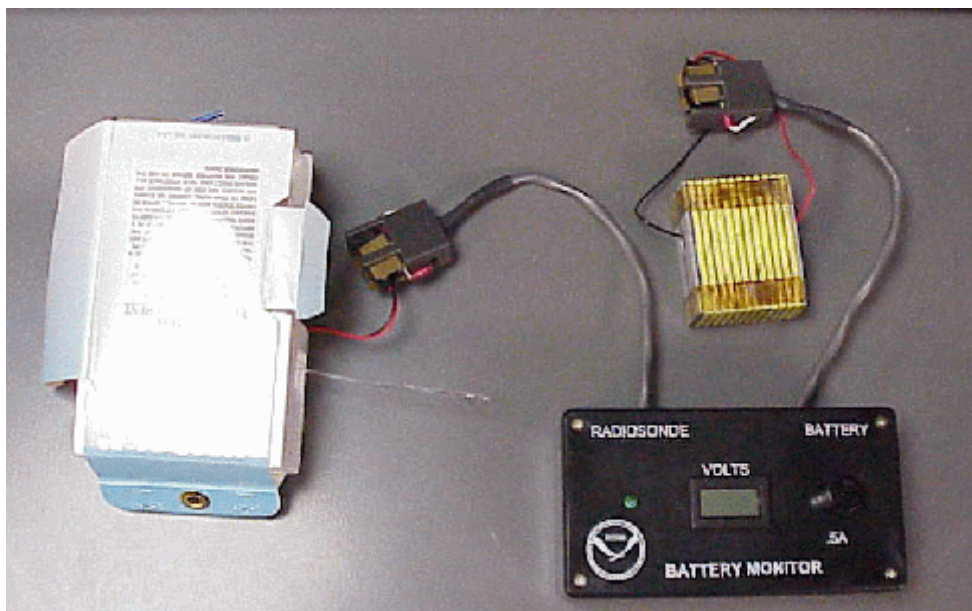

Figure 2
NOTE: When testing the battery, ensure the battery is under a load by always connecting the radiosonde to the battery tester (figure 2).
1. Place the battery on a paper towel, and on an area with sufficient room to include the battery tester and radiosonde. See figure 2 for an approximate setup.